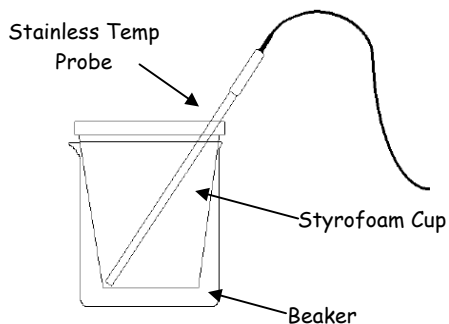

Figure 1
2. Place a Styrofoam cup into a 250-mL beaker as shown in Figure 1 below. Measure out about 30 mL of 1.0 M citric acid solution, record the exact volume, and then pour the solution into the Styrofoam cup.
6. Place the temperature probe into the citric acid solution as also shown in figure 1 above.